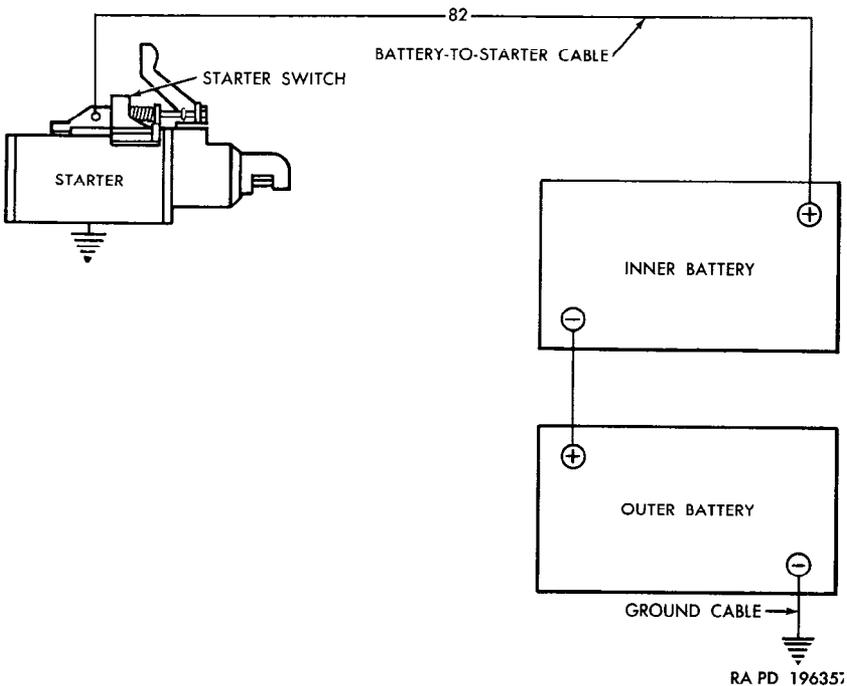

Figure 124. Starting system wiring diagram.
- (1) The starting system (fig. 124) includes the starter, starter switch, and battery-to-starter cable. Current is supplied by two 12-volt batteries. Engagement of the starter is effected by depressing the starter switch pedal (X, fig. 12).
- (2) On vehicles of early production, a slave receptacle was provided for the introduction of additional current to start the engine (par. 6).